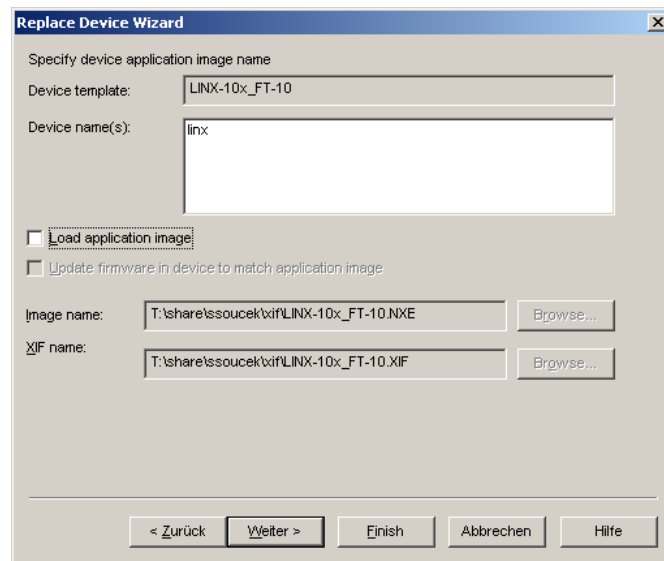

Figure 97: Click Next without loading an application image.
4. In the following window shown in Figure 97 click **Next**.